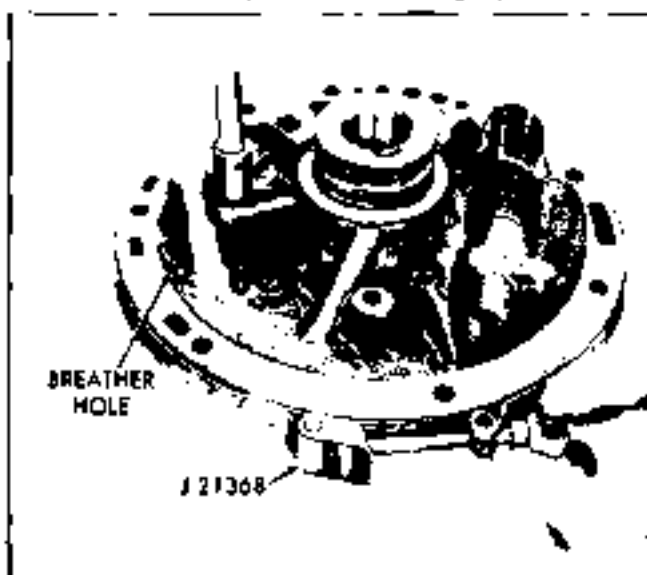

Fig. 7E-80 Installing Pump Cover to Pump Body
3. Install spacer(s) if used, retainer and spring into pressure regulator bore (Fig. 7E-74).
9. Install two (2) hook type oil seal rings.